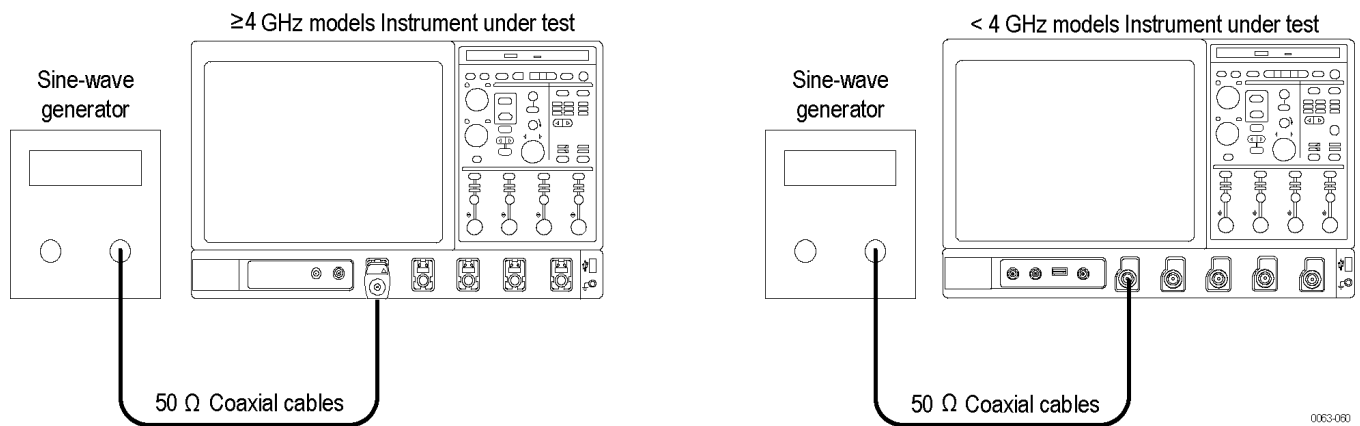

Figure 27: Timebase and delay time second test hookup
- b. *Hook up the test-signal source:* Connect the output of the sine wave generator to **Ch 1** input. (See Figure 27: Timebase and delay time second test hookup on page 243.)